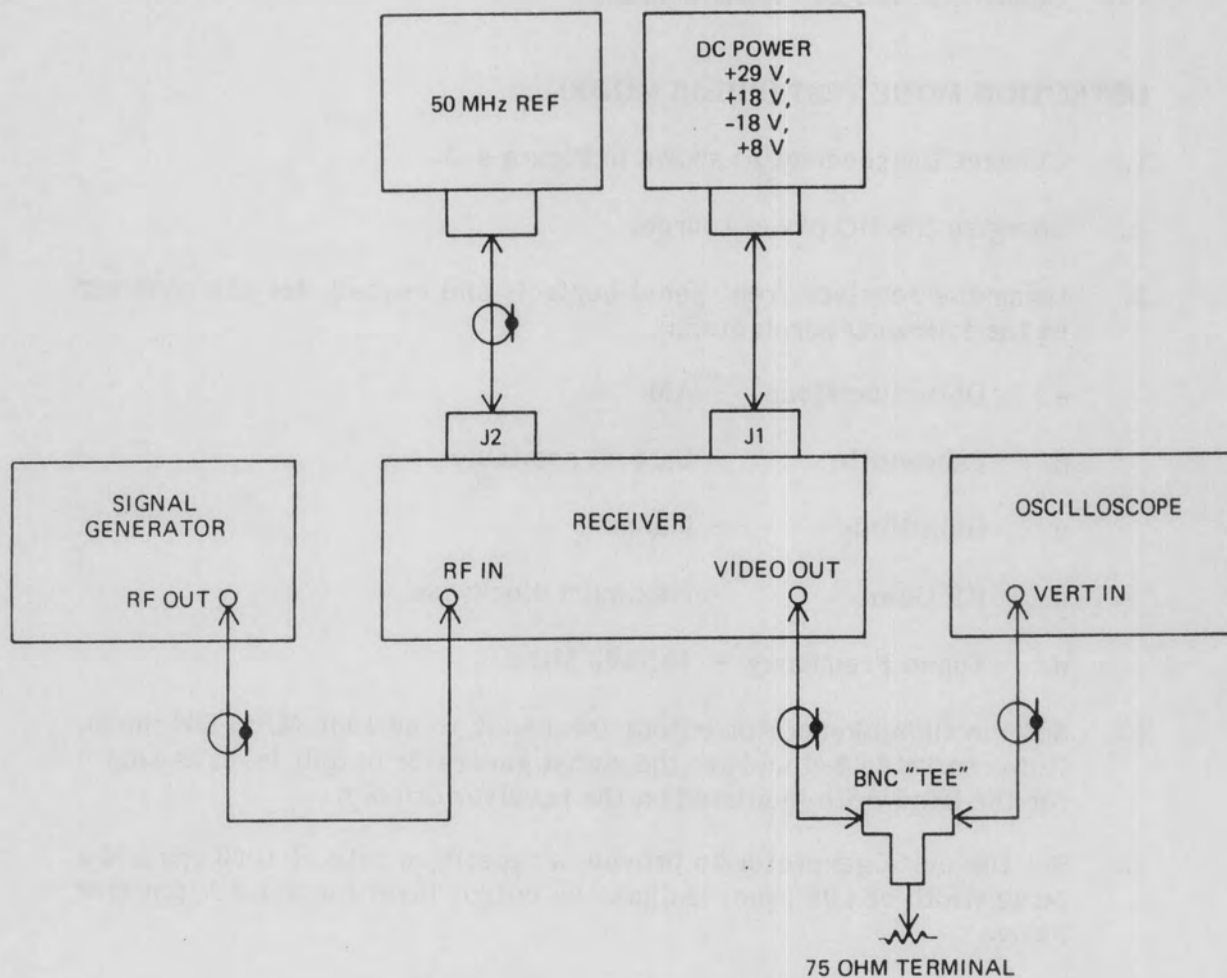

Figure 4-2. AM, CW, FM Detection Mode Test Equipment Setup
1. Connect the receiver as shown in **Figure 4-2**.